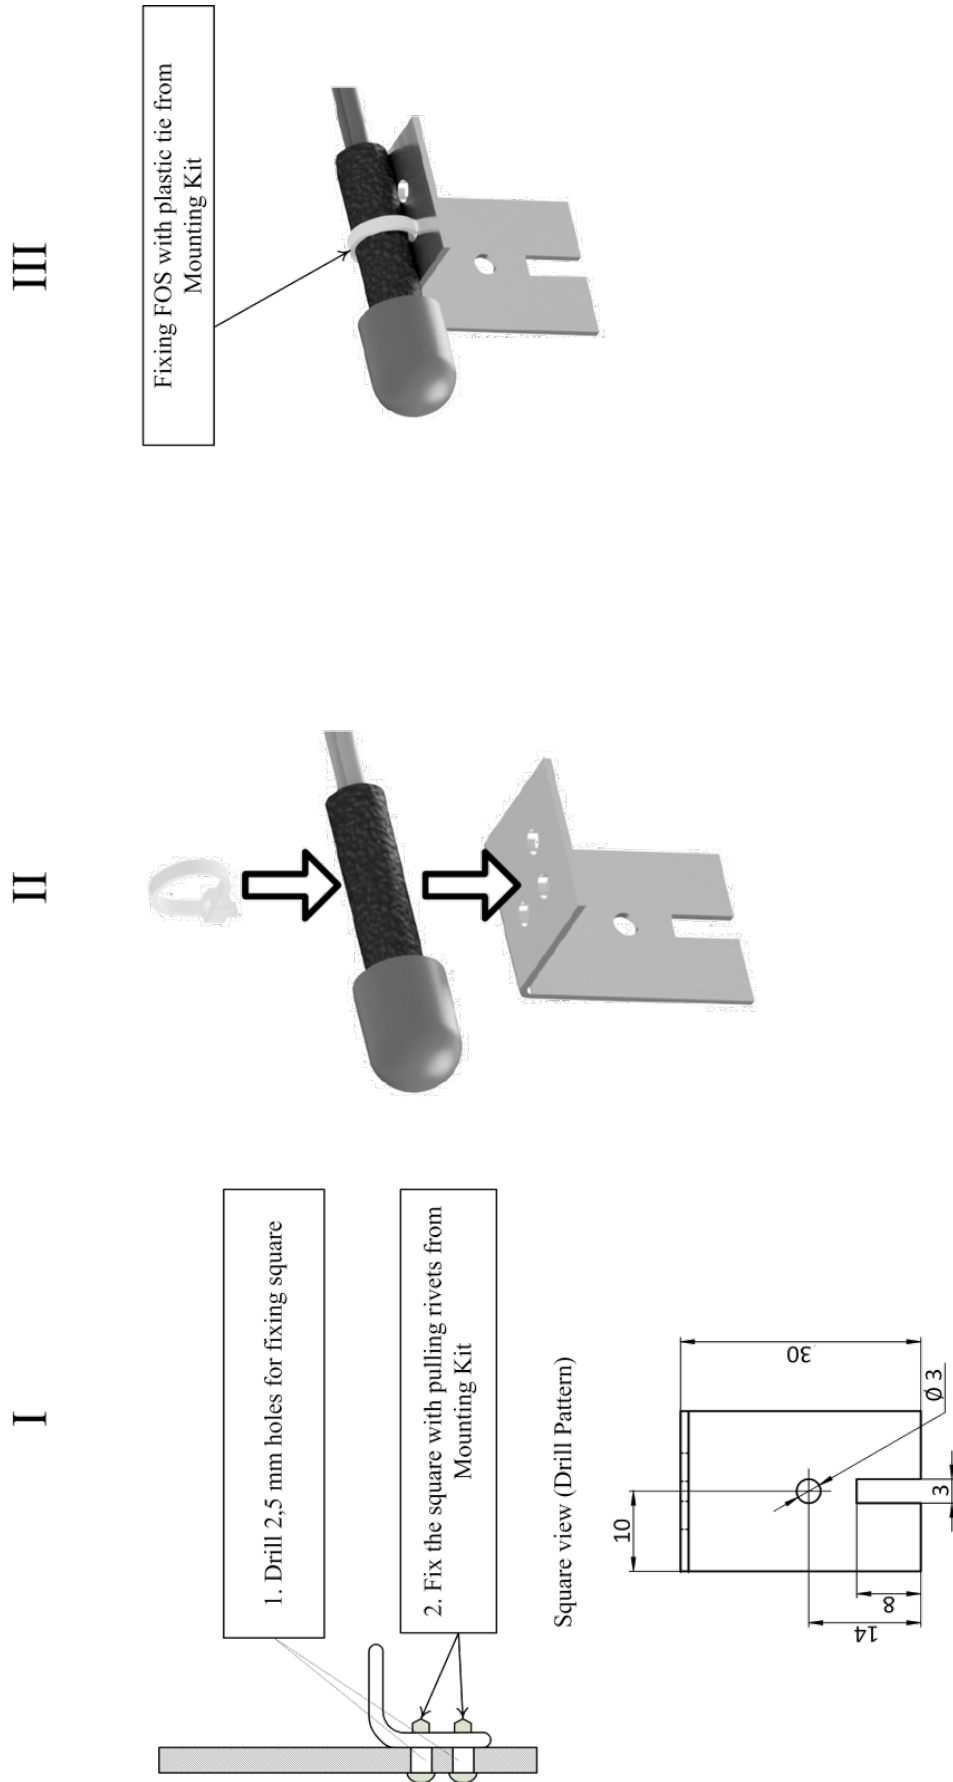

Figure 2.3 FOS installation
- 2.2.5.2. Install the FOS mounting bracket according to Fig.2.3 (brackets included in the mounting kit);